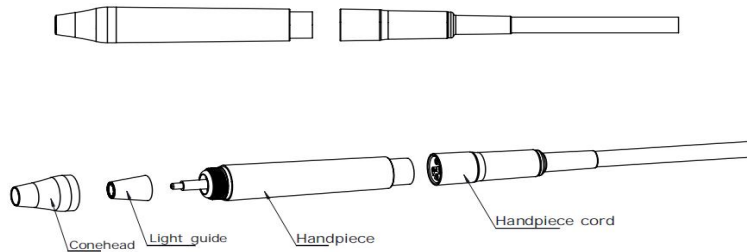
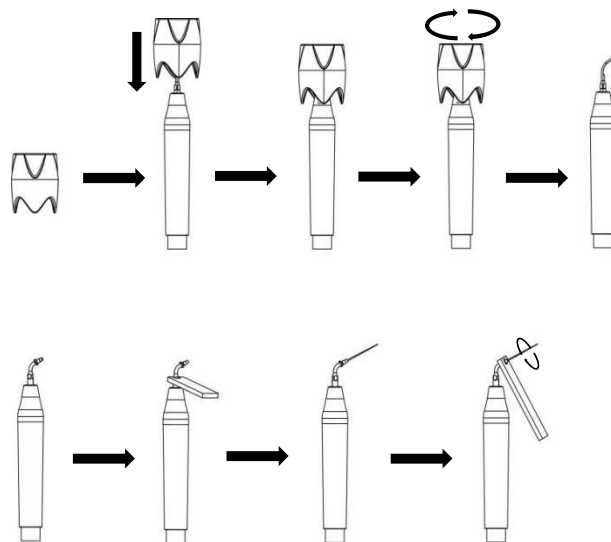

Figure 2.5
Figure 2.6
unload the tip and protect the user's hand during use, and it can avoid be scratched by the tip when load and unload the tip(See Figure 2.6).
- 5) Fasten the tip to the handpiece with torque wrench (See Figure 2.6), and then correctly connect the handpiece with the handpiece cord socket. Before installing the handpiece, dry the connection end of the handpiece and the socket thoroughly(Figure 2.5).
- 1) Fix the holder of endo file to the handpiece with endo wrench (See Figure 2.6).